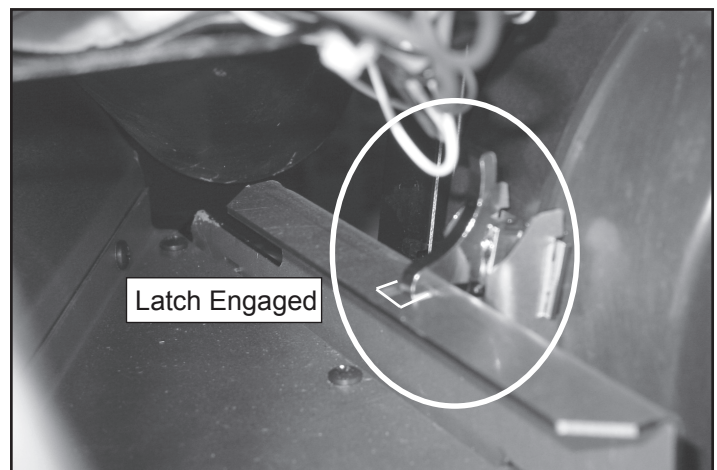

Figure 31.4
5. When the blower is properly positioned the latch will engage the notch to hold the blower in place. **Figure 31.4**.